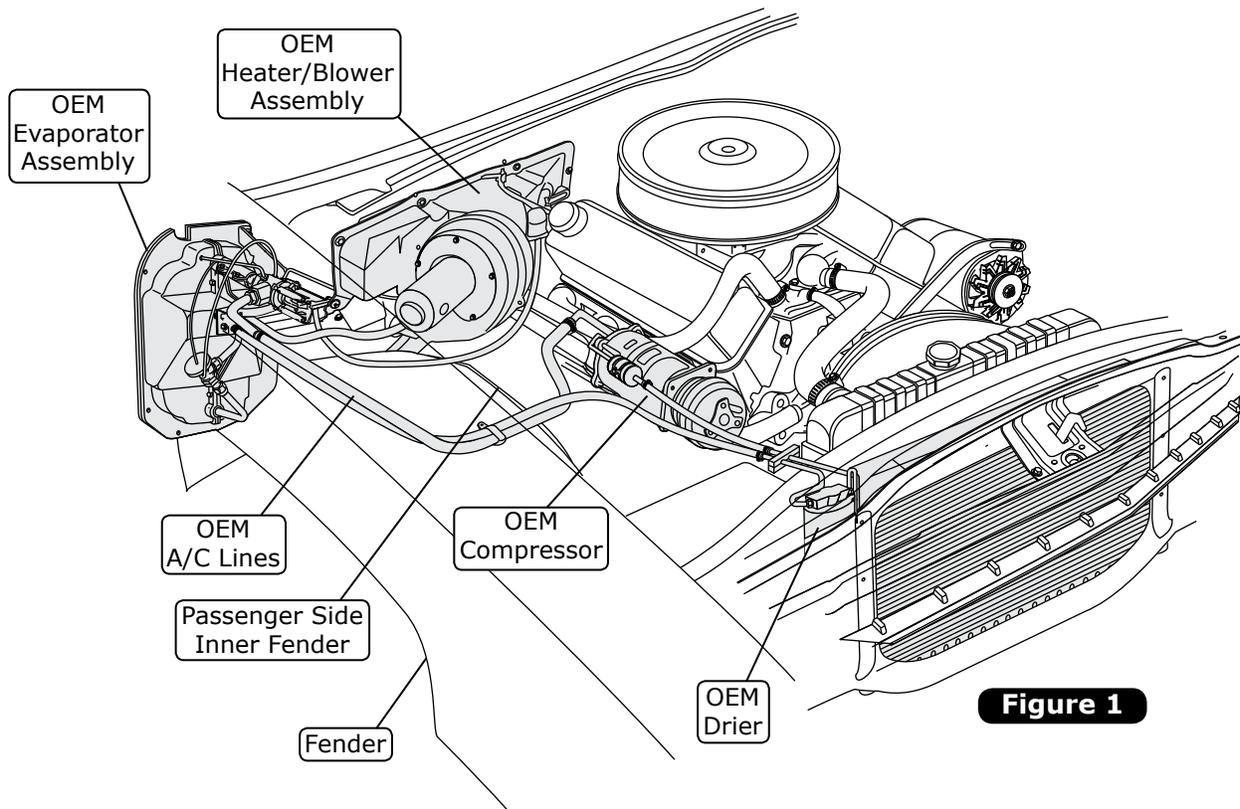

Figure 1
5. Remove OEM condenser and drier (discard) (See Figure 1, below).
6. Remove OEM A/C lines from compressor to evaporator (discard) (See Figure 1, below).
7. Remove OEM A/C compressor and compressor bracket (discard) (See Figure 1, below).
8. Remove OEM blower assembly (discard) (See Figure 1, below).